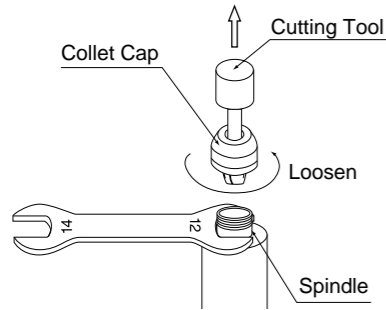

Fig. 17
- 1 Loosen the collet cap with cutting tool and remove according to the "Replacing Cutting Tool" steps above. (Fig. 17)